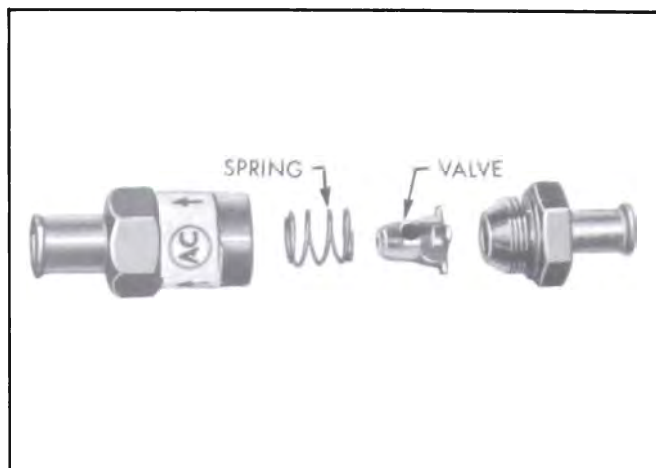

Figure 1-7—Crankcase Ventilator Valve
b. Disassemble valve, clean thoroughly with carburetor cleaner or some other suitable cleaner. Check the valve to be certain small hole is clear and spring is not distorted or worn, and reassemble. See Figure 1-7. Check hose for accumulation of deposits that would obstruct air flow.